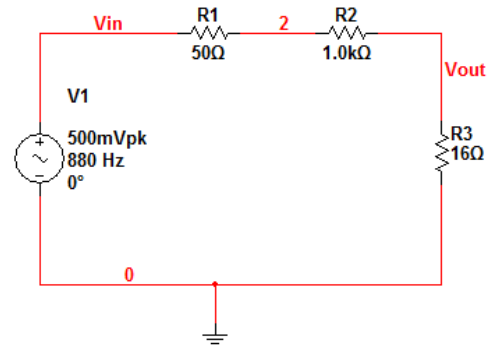

Figure 2: Direct connection of a speaker to a high impedance source.
**TASK 2:** Simulate the circuit shown in Figure 2.